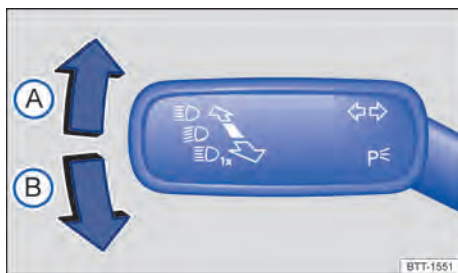

Fig. 80 On the left-hand side of the steering column: direction indicator and high beam lever.
2. Move the direction indicator and high beam lever from the centre position to the required position → Fig. 80.